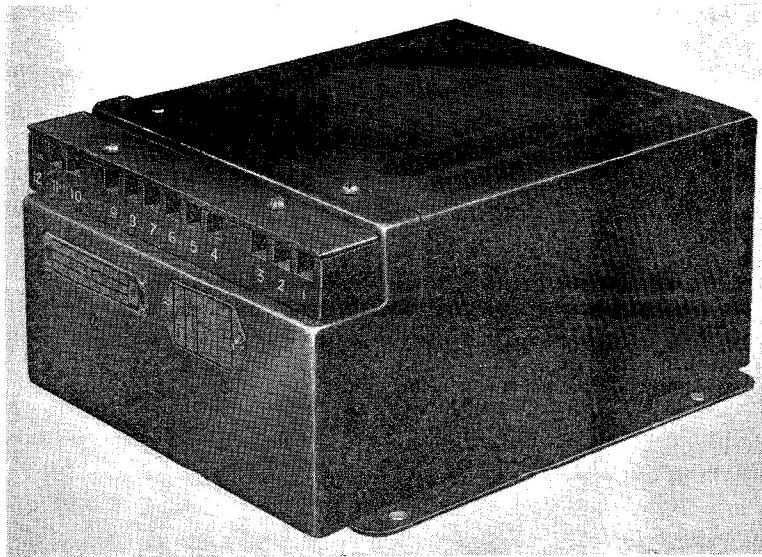

Fig. 1. General view of Type U4001
2. The unit, shown in fig. 1, incorporates two magnetic amplifiers with infinite gain characteristics, designed to operate relays which have a trigger action. A single reference, operating from the 28-volt busbar, is used for both amplifiers. A fast response circuit is included as a protection against very high voltages and load sharing facilities provided for use with two or more systems.